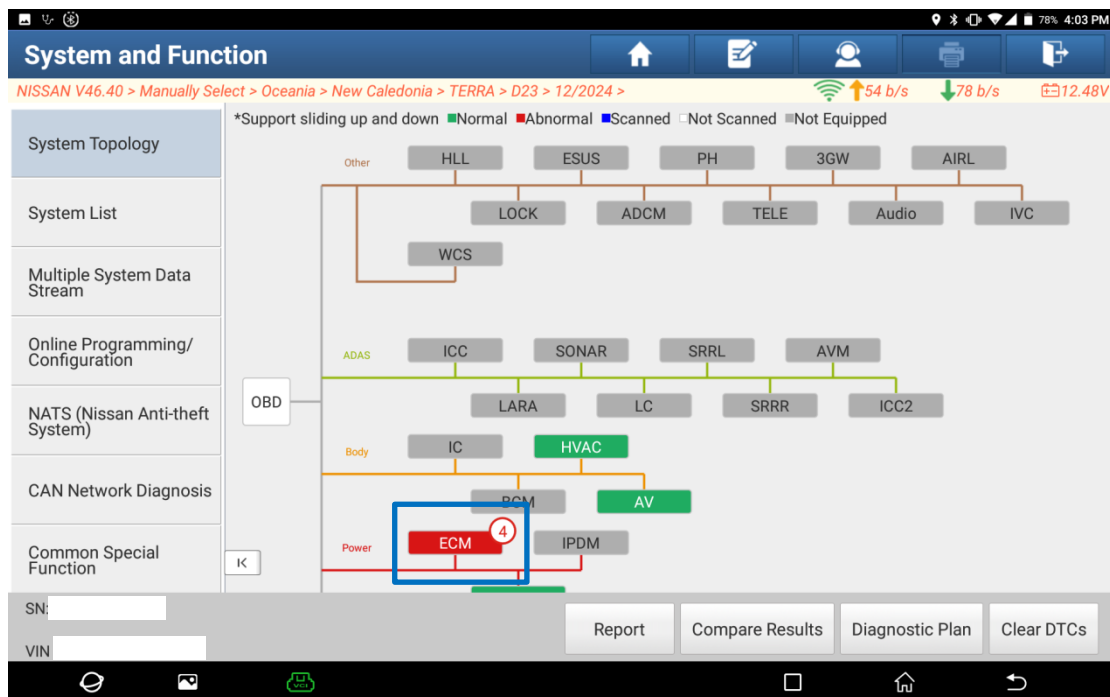
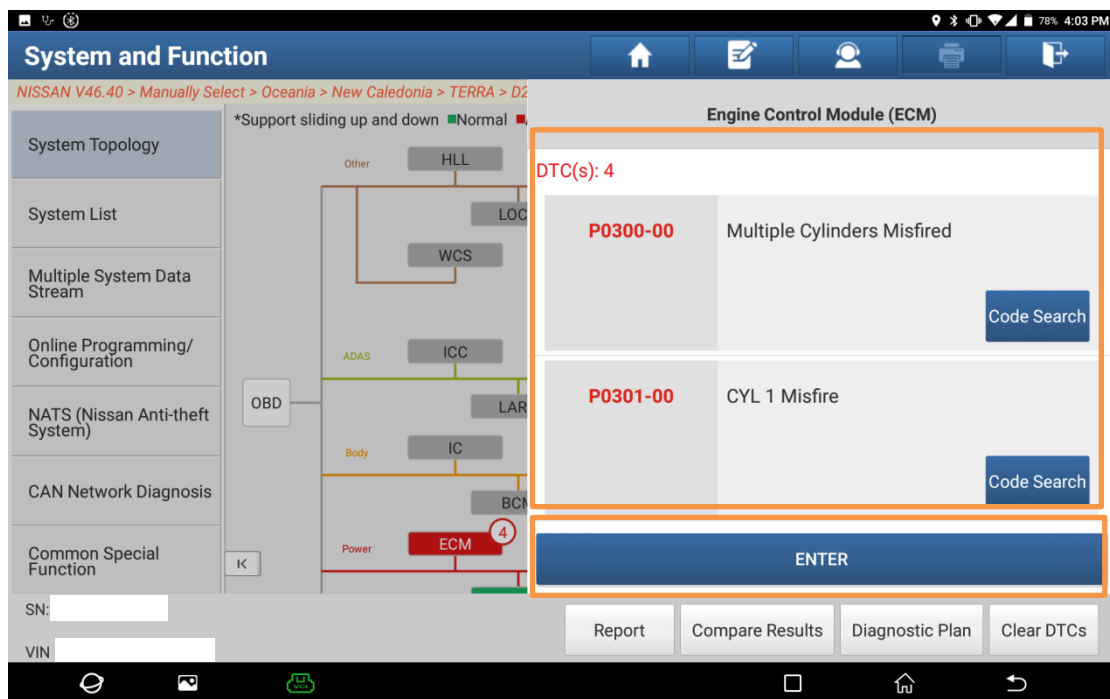
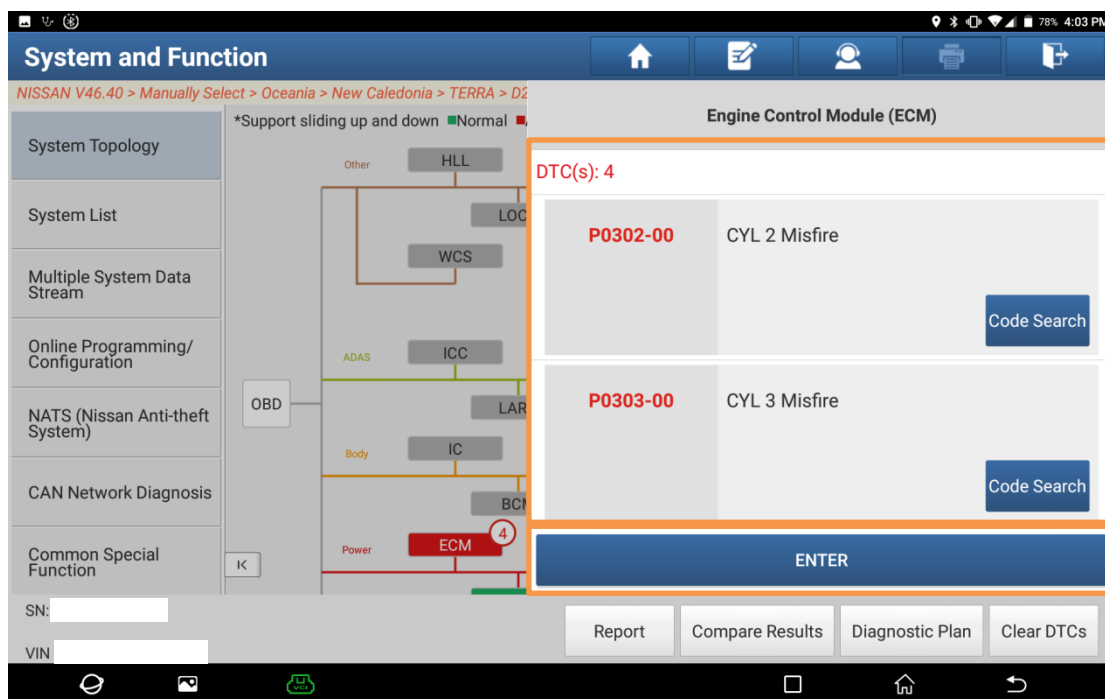

Figure 7
Figure 8
Figure 9
4. After the detection is completed, click [ECM] on the system topology (Figure 7) to display ECM DTC information (Figure 8 and Figure 9). When the diagnostic tool reads out a multi-cylinder misfire DTC, the power balance function can be executed to help pinpoint the cylinder with abnormal power output. This function can also be used when a single-cylinder misfire DTC is detected, in order to investigate the specific issue affecting that cylinder. Click "ENTER" to enter the ECM menu interface.